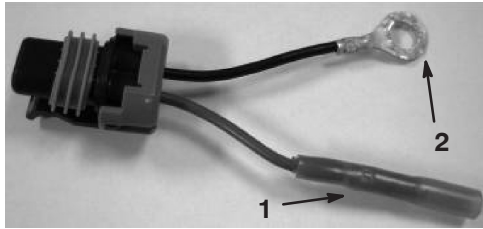

Figure 5
- C. Place the supplied splice terminal on the red wire and the supplied ring terminal on the black wire (Fig. 5). Crimp the terminals in place and heat shrink the crimped side of the splice terminal.